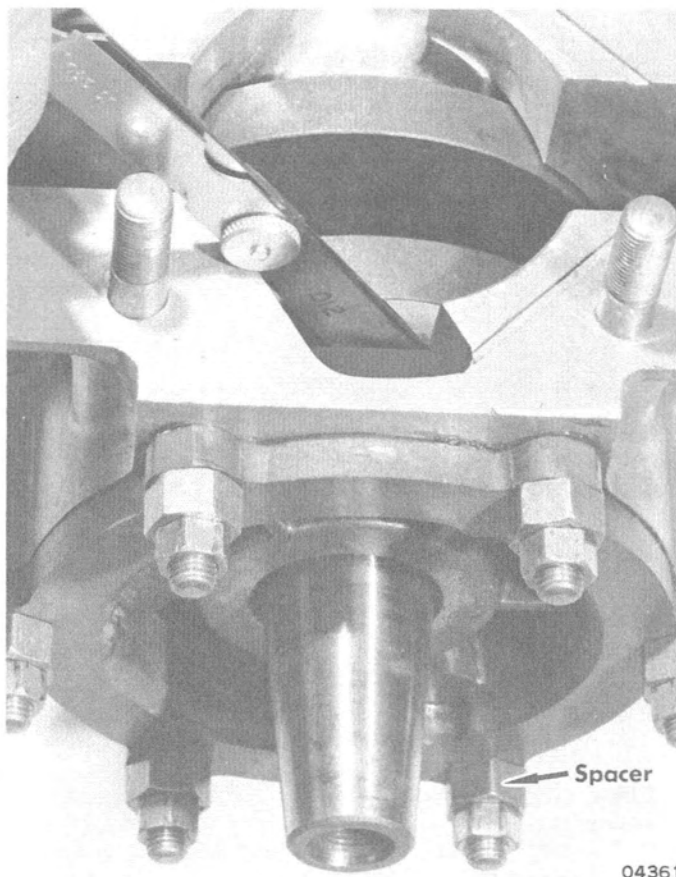

Figure 7.
NOTE: Fork Tool (C-91-45070) is available for easier location of center main. Insert fork at location shown in Figure 7 and adjust center main to align scribed crossed lines.
10. Check crankshaft end play as follows: (Figure 7)